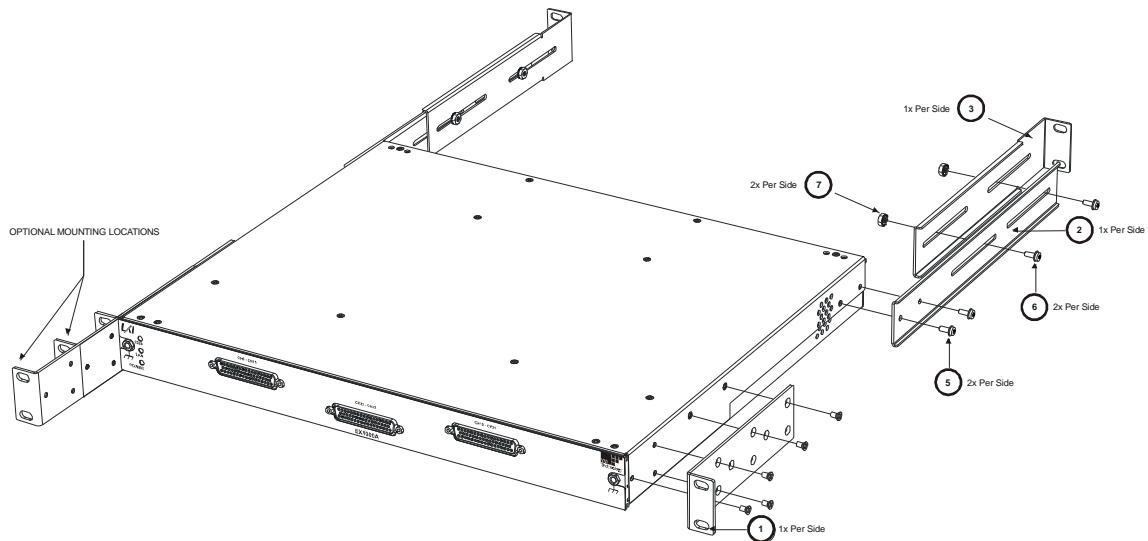

FIGURE 2-1: RACKMOUNT HARDWARE INSTALLATION DIAGRAM
- 2) Using a #2 Phillips screwdriver, install the rack ears (P/N: 41-0482-009) on the front of the EX10xxA using five (5) 6-32 X 3/8" flat head Phillips stainless steel screws (P/N: 37-0173-037) for each rack ear. Note that the "Optional Mounting Locations" in Figure 2-1 allow the EX10xxA to be installed in a rack either flush or recessed.
- 3) Next, attach the unit support brackets (P/N: 41-0482-010) to the EX10xxA using two (2) 6-32 x 3/8" pan head Phillips SEMS screws (P/N: 37-0028-037) for each bracket (see Figure 2-1).
- 4) Place the rear rack support brackets (P/N: 41-0482-011) on the inside of the unit support brackets installed in step 3 and loosely secure them using two (2) 8-32 x 3/8" pan head Phillips SEMS screws (P/N: 37-0073-037) and two (2) KEPS hex nuts (P/N: 37-0200-832). Loosely installing the hardware will allow the rear support bracket to adjust to the proper length once installed in a rack.